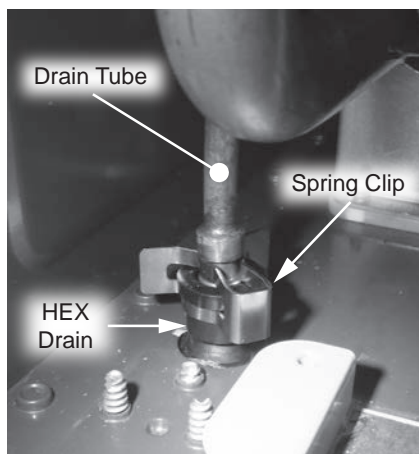

Figure 204 - Removing spring clip from HEX drain
- 18** Locate the new HEX drain and O-ring provided in the kit. Remove old O-ring from drain tube and install new O-ring as shown in Figure 204.